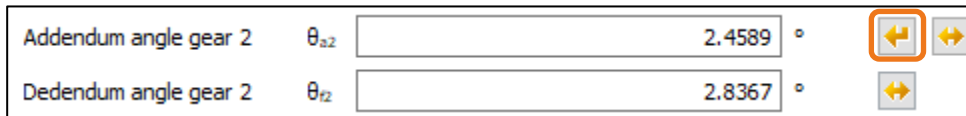

Figure 17. Sizing function for addendum and dedendum angle
- The «**Basic data**» is where you define the addendum and dedendum angle. We recommend you use the sizing function if you are sizing a new gear. As the angles are affected by the cutter head radius, the reference profile, and the profile shift, you must run the sizing function again if you want to change one of these values at a later point in time (see Figure 17).